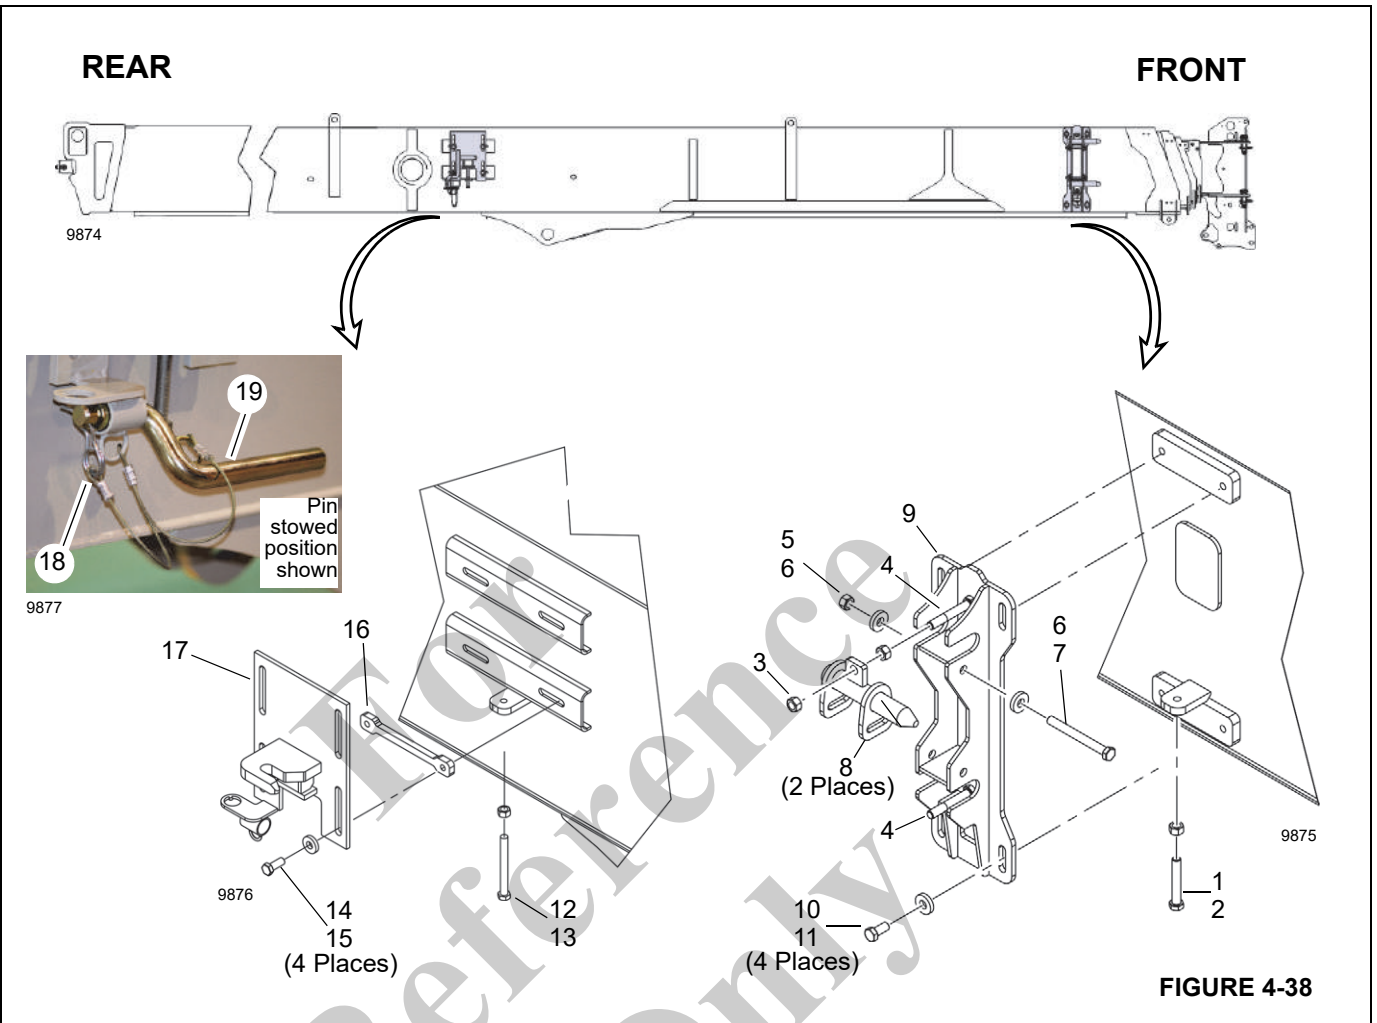
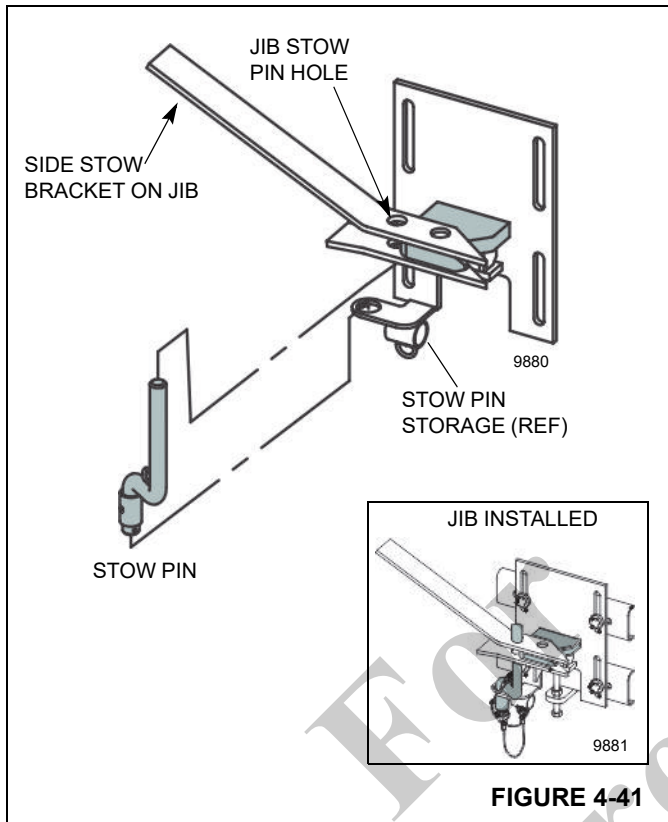

FIGURE 4-38
FIGURE 4-41
2. Loosen hex nut (1, Figure 4-38) and capscrew (2).
3. Remove nuts (3) from captive capscrews (4).
4. Remove nuts (5), washers (6), capscrews (7), and pins (8) from the front bracket assembly (9).
5. Remove capscrews (10), washers (11), and front bracket assembly (9) from the boom base section.
1. Install the front bracket assembly (9, Figure 4-38) using washers (11) and capscrews (10).
2. Install pins (8) on the front mounting bracket (9) using capscrews (7), washers (6), and nuts (5).
3. Install nuts (3) on captive capscrews (4).
4. Tighten nut (1) and capscrews (2) as necessary.
2. If necessary, remove the spring clip (18, Figure 4-38) from stow pin (19). Install the spring clip and stow pin in the stowed position for ease of removal.
3. Loosen capscrew (12) and nut (13).
4. Remove capscrews (14), washers (15), plate (16), and rear jib mount assembly (17).
1. If necessary, remove the spring clip (18, Figure 4-38) from pin (19). Install the spring clip and stow pin in the stowed position for ease of installation.
2. Install the plate (16) and rear jib mount assembly (17) using washers (15) and capscrews (14).
3. Tighten capscrew (12) and nut (13) as necessary.
- a. Loosen capscrews (14, Figure 4-38).
- b. Adjust capscrew (12) and nut (13) as necessary to adjust the height of the bracket.
- c. Tighten capscrews (14).
- a. Loosen capscrews (10, Figure 4-38).
- b. Adjust capscrew (2) and nut (1) as necessary to adjust the height of the bracket.
- c. Tighten capscrews (10).
- a. Loosen nuts (5, Figure 4-38).
- b. Adjust nuts (3) as necessary to adjust the horizontal position of the bracket pin (8).
- c. Tighten nuts (5).
5. Slowly retract the boom until jib mounting brackets seats on the rear base boom section. Install the stow pin (Figure 4-41). Make sure the stow pin is aligned and properly seated in the stow hook on the rear jib mounting bracket. Adjust the rear and front jib mounting brackets as necessary for proper alignment.
Make sure the jib is securely seated on the rear jib mounting bracket with the stow pin (Figure 4-41) properly installed before removing the jib pins (Figure 4-39). Failure to properly secure the jib during stowing and erecting may allow the jib to fall. Serious personal injury or death could result.
Make sure the jib pins are securely installed in the upper and lower jib holes on the boom tip (Figure 4-39) before removing the stow pin from the rear jib mounting bracket (Figure 4-41). Failure to properly secure the jib during stowing and erecting may allow the jib to fall. Serious personal injury or death could result.
13. Slowly retract the boom until jib mounting brackets seats on the rear base boom section. Install the stow pin (Figure 4-41). Make sure the stow pin is aligned and properly seated in the stow hook on the rear jib mounting bracket.